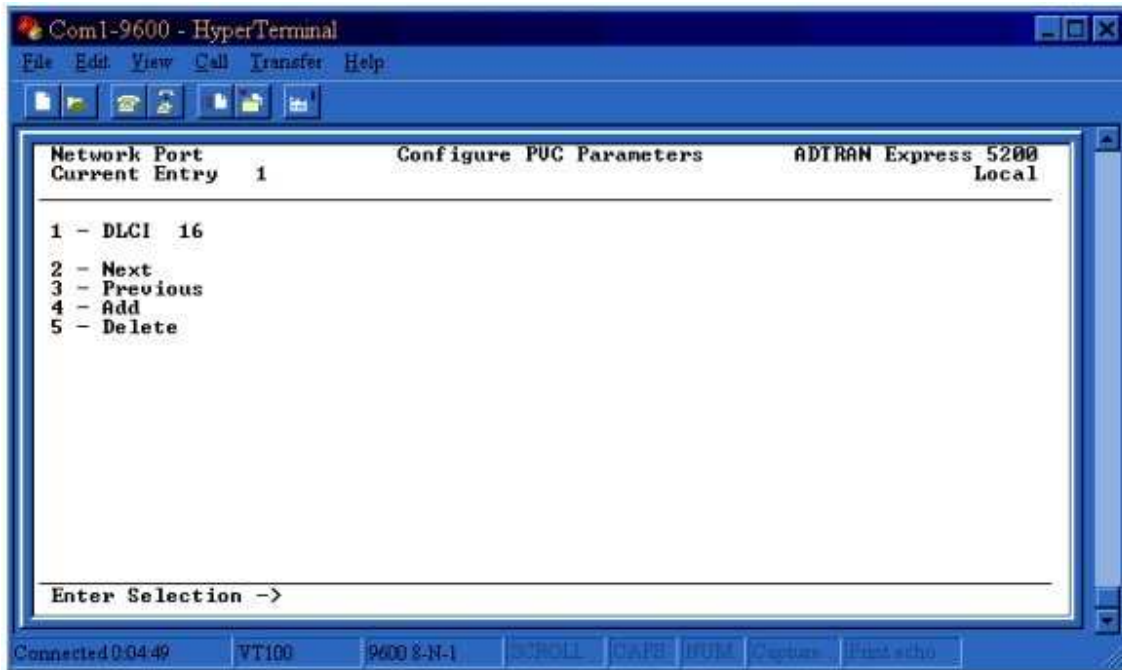
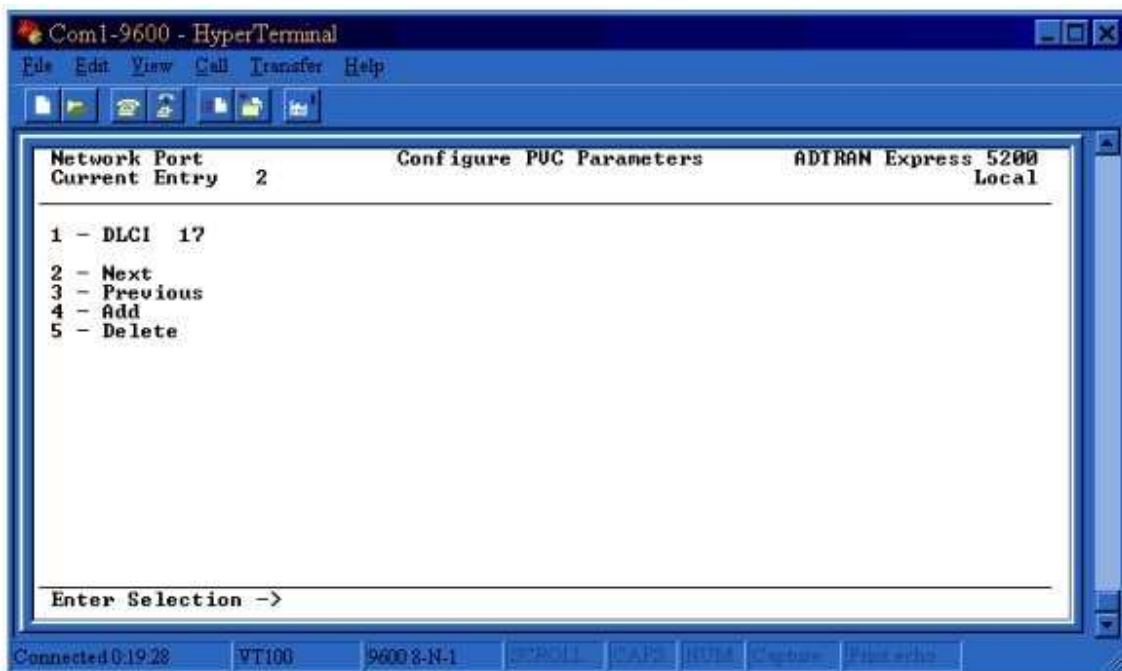

Figure 7
Figure 8
6. Enter 1 and press <enter>, then enter the first DLCI value of 16 for the Atlanta remote. Notice that DLCI 16 is denoted as **Current Entry 1** in the upper left-hand corner. See Figure 7. To configure the second DLCI in the table, enter 4 and press <enter> to select **Add. Current Entry 2** will be displayed. Enter 1 and press <enter>, then enter the second DLCI value of 17 for the Birmingham remote. See Figure 8.